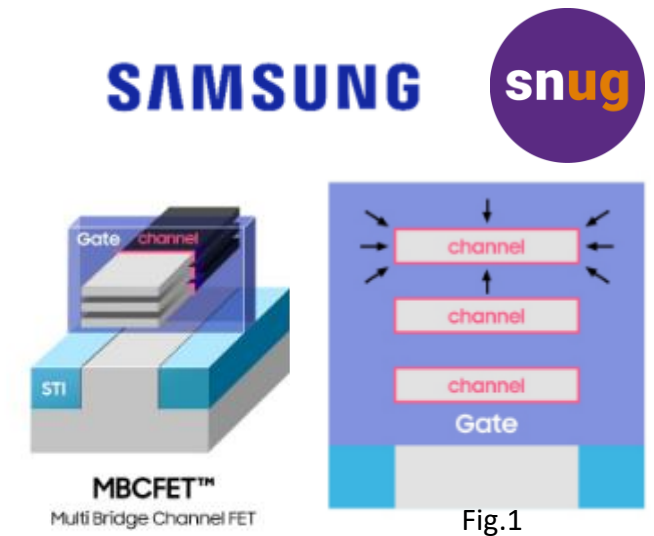

Fig.1 Tapered T-shape RX LLE – GDS vs Si
- MBCFET (Multi Bridge Channel) Gate-All-Around (GAA) from Samsung Foundry (Fig.1). MBCFET can support multiple nanosheet width. Here we are presenting GAA device with four types of nanosheet (**NS1/NS2/NS3/NS4**)